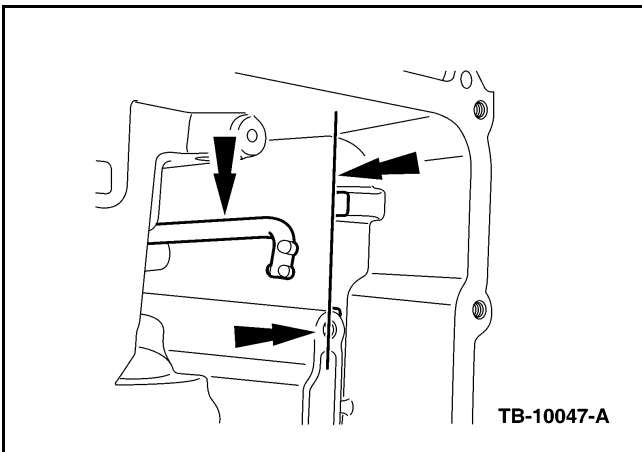

Figure 3 - Article 13-5-27
- d. Do not allow the park pawl actuator rod to become disengaged from the park pawl and the abutment. Keep the end of the park pawl actuator rod behind the machined valve body mating surface of the transaxle case. If the park pawl actuator rod becomes disengaged from the park pawl and the abutment, transaxle removal and disassembly is required to install the actuator rod. (Figure 3)